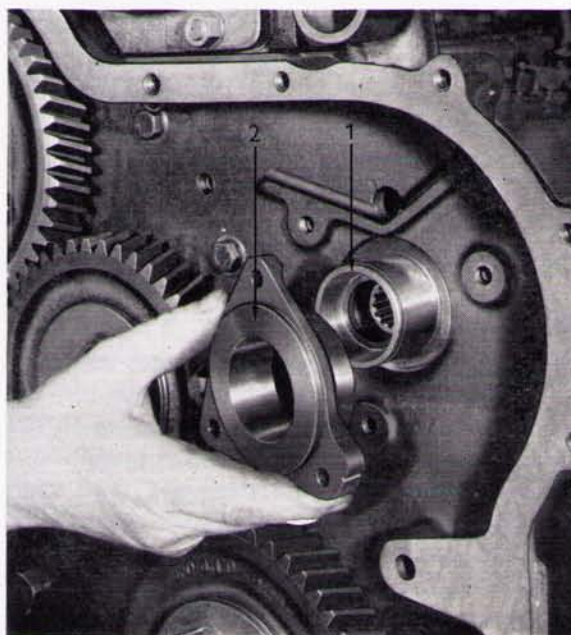

Fig. M.8.
4. The fuel pump drive gear may now be removed from the hub, which may also be withdrawn from the carrier by hand, once the retaining circlip has been removed, See Fig. M.8.